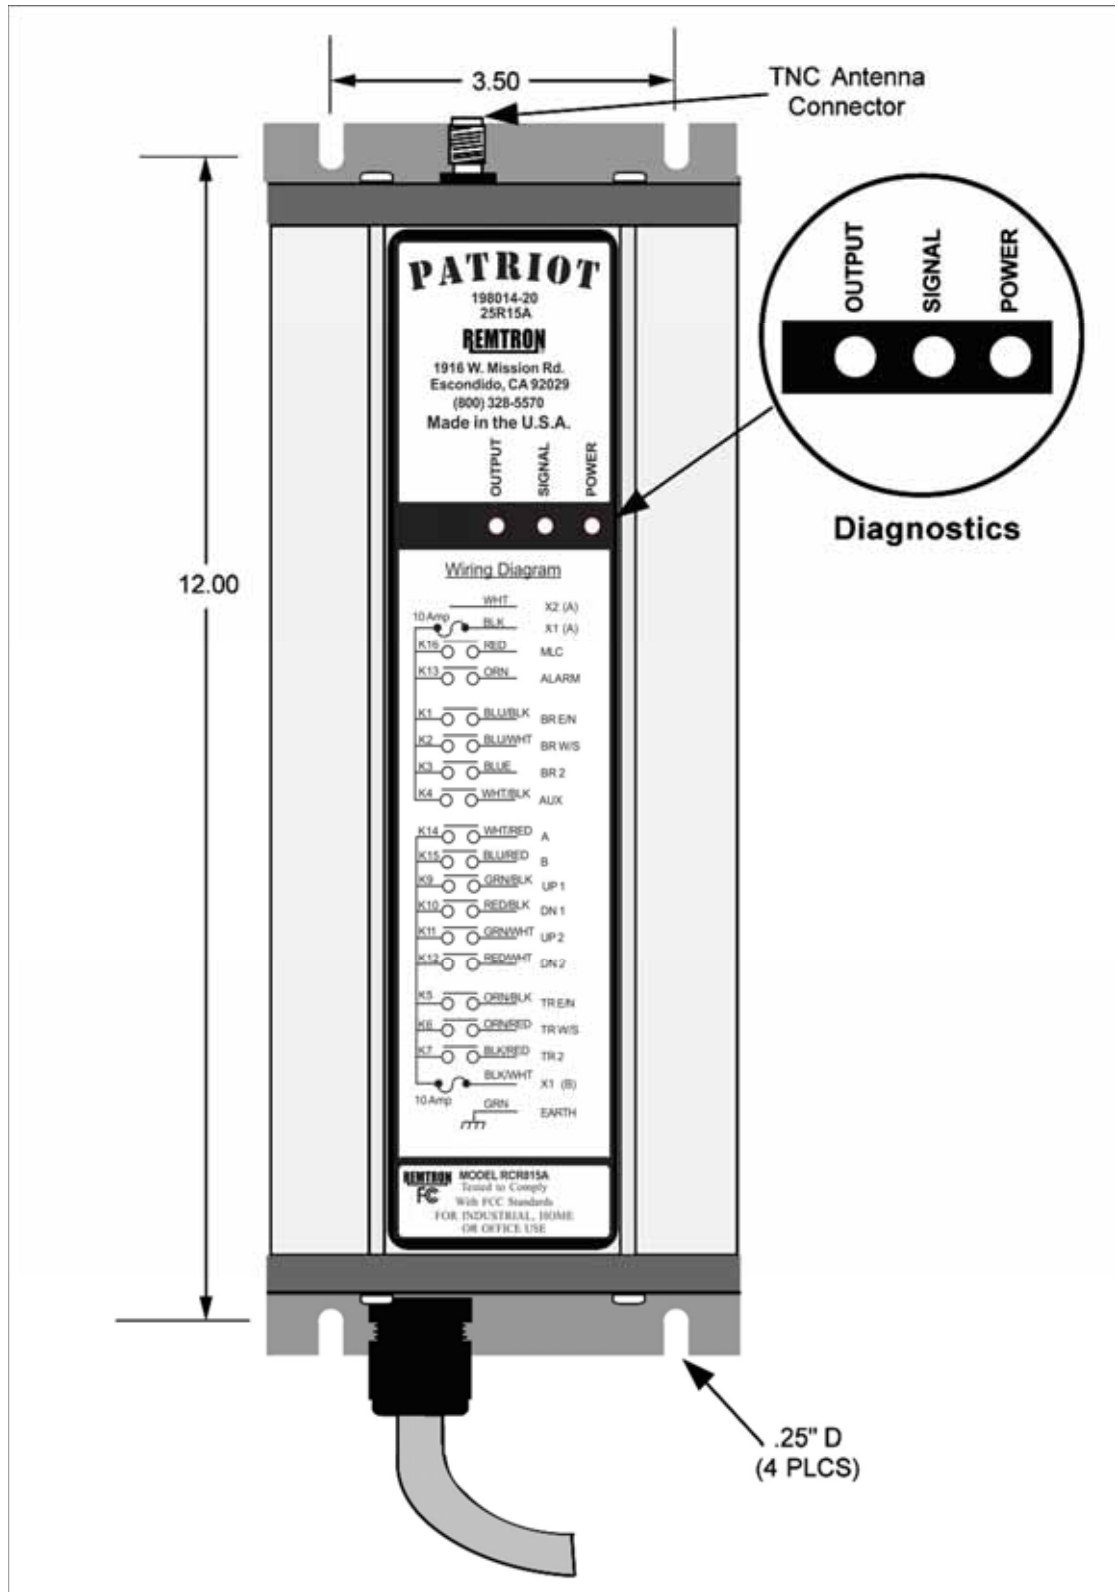

Figure 5. Patriot Receiver (25R15A)
Figure 5 on page 14 shows a typical **Patriot** receiver. See this figure for mounting dimensions and antenna connector location.
2. Verify that **PWR** indicator turns on. See Figure 5 on page 14.
See Figure 5 on page 15 for location of the diagnostic LEDs. The **Patriot** receivers have diagnostic LEDs that aid in identifying a problem if one occurs. The following table describes the diagnostic LEDs.